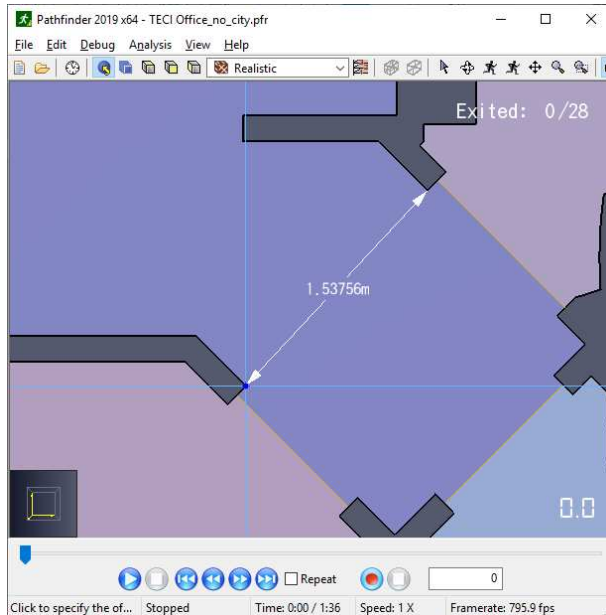

Figure 50. Unmodified dimension
5. If the dimension does not need further adjustments (Figure 50), either press Enter on the keyboard or click the second point again, and the dimension will be added. Skip the remaining steps.